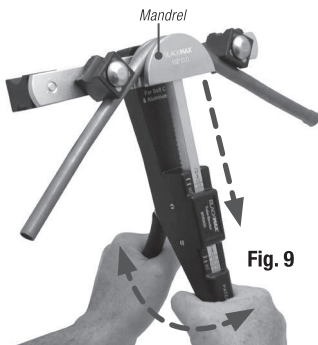

Fig. 9
8. To remove bent tube, **PULL RATCHET HANDLE** handle away from the **MAIN BODY** of the tool (Fig. 9).
9. Push tube and mandrel toward handle (Fig. 9) then pull tube out of bender